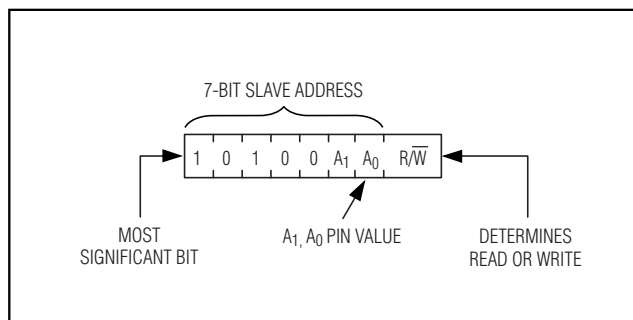

Figure 10. DS3882's Slave Address Byte
**Slave Address Byte:** Each slave on the I2C bus responds to a slave addressing byte sent immediately following a start condition. The slave address byte (Figure 10) contains the slave address in the most significant seven bits and the R/W bit in the least significant bit. The DS3882's slave address is 10100A1A00 (binary), where A0 and A1 are the values of the address pins (A0 and A1). The address pin allows the device to respond to one of four possible slave addresses. By writing the correct slave address with R/W = 0, the master indicates it will write data to the slave. If R/W = 1, the master will read data from the slave. If an incorrect slave address is written, the DS3882 will assume the master is communicating with another I2C device and ignore the communications until the next start condition is sent.